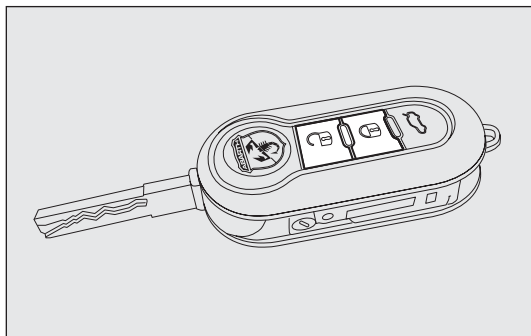
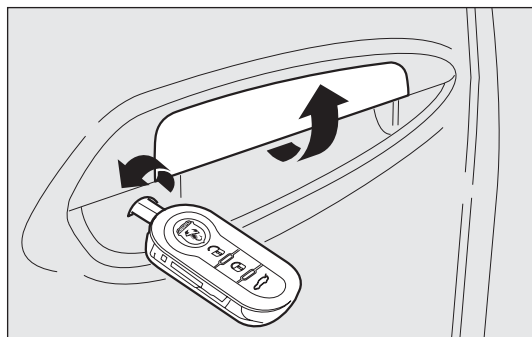
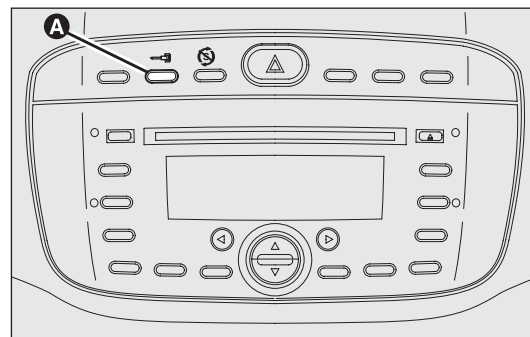

fig. 67
fig. 68
fig. 69
With the doors closed, press button  on the remote control fig. 67 or insert the key into the lock of the door on the driver's side and turn it clockwise fig. 68. The locking of the doors is signalled by the LED on button A-fig. 69 flashing once. The doors can be locked only if they are all shut. If one or more doors are open after pressing button  on the remote control fig. 67, the direction indicators and the LED on the button A-fig. 69 flash quickly for approximately 3 seconds.
If one or more doors are open after turning the key, only the LED on button A-fig. 69 will blink rapidly for approximately three seconds. If the doors are closed but the boot is open, the doors are locked: the direction indicators (only when locking is carried out using button  fig. 67) and the LED on button A-fig. 69 flash quickly for approximately 3 seconds.
With this function on, you can still unlock the other doors by pressing button A-fig. 69 on the central control panel.
Double-tapping button  on the remote control fig. 67 activates the dead lock device (see “Dead lock”).
Briefly press button  fig. 67 to unlock the doors remotely, turn on the ceiling lights for a limited period and double flash the direction indicators, or insert the key into the driver's door lock and turn it anticlockwise as shown in fig. 68.
Press button A-fig. 69 to lock/unlock all doors. The button has an LED that indicates whether the doors are locked or unlocked.
it will not be possible to unlock them by pressing button A-fig. 69 on the dashboard.
- ☐ locking/unlocking button A-fig. 69;
The dead lock device is automatically activated on every door when pressing the remote control button  briefly twice, fig. 67.
Device activation is indicated by 3 flashes of the direction indicators and the flashing of the LED in button A – fig. 69 located in the dashboard controls.